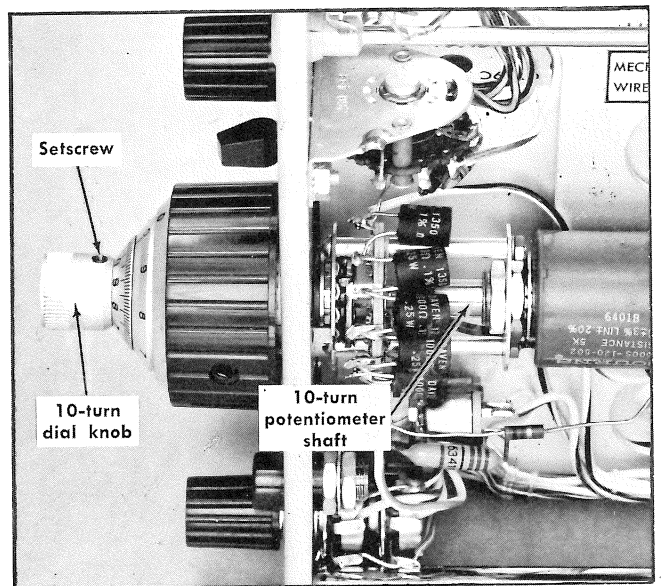

Fig. 5-10. Zero volts mechanical calibration, step 14.
e. Set the +INPUT switch to Vc and measure the amount of residual Vc voltage. The voltage should be 0.5 mv or less; that is, when switching the +INPUT switch from GND to Vc, trace shift should be 0.5 cm or less. If the residual voltage does not agree with 10-turn dial setting, loosen the setscrew in the 10-turn dial knob with a 0.050" hexagonal wrench. Turn off the oscilloscope power, remove the Type 10A1 plug-in, hold the COMPARISON VOLTAGE potentiometer shaft (see Fig. 5-10) in its fully counterclockwise position, and turn the 10-turn knob so the reading is the same as the amount of residual voltage. **(If the knob can be reset on the shaft without removing the unit, do so.)** Accuracy of this mechanical adjustment should be within 0.5 mv. Tighten the setscrew, reinsert the unit into the plug-in compartment and turn on the oscilloscope power.